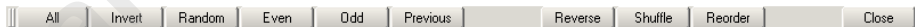

Figure 15.2. The Select Toolbar
2. **Main Toolbar → Select** : open the Select Toolbar; see *Figure 15.2, “The Select Toolbar”*.
3. Main Toolbar → Select : open the Select Toolbar; see *Figure 15.2, “The Select Toolbar”*.